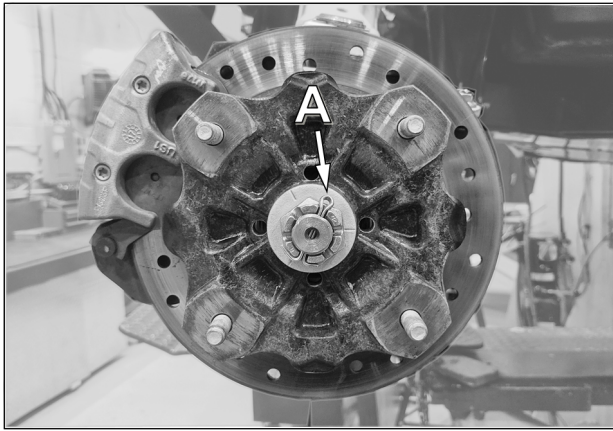

Fig. 9
- Make sure that the cotter pin locking the wheel hub's castle nut (**A**) will not interfere with the Track System hub during installation. There must not be any resistance when the Track System is installed on the vehicle's wheel hub. See Fig. 9